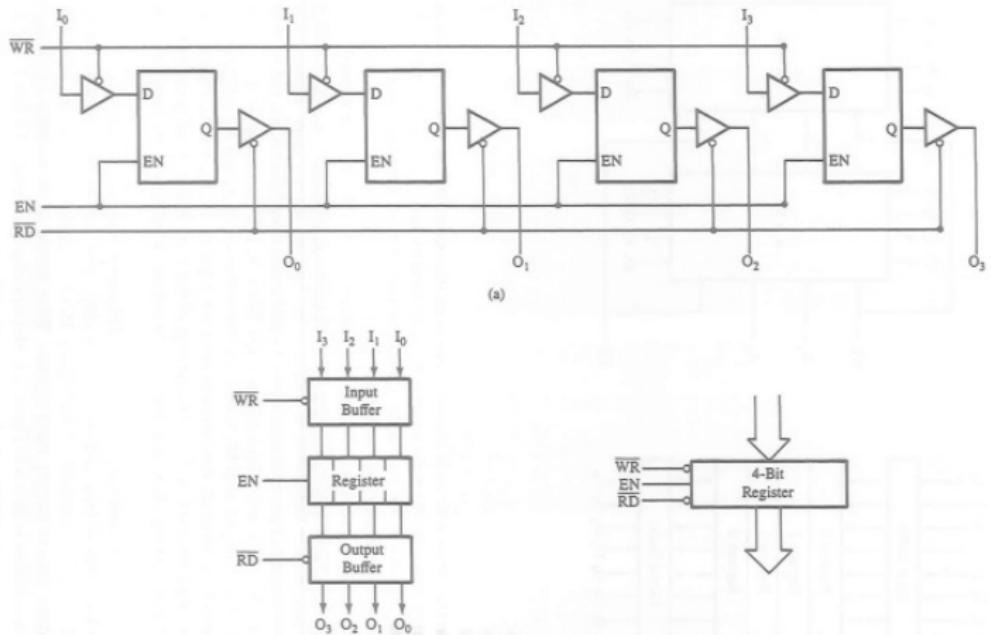

Figure 25: Latch as a four bit register
- Figure 25 illustrates the arrangement of latches or flip flop in a 4 bit register.